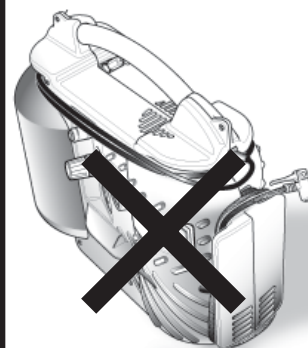

Fig. 5B
- Do Not operate compressor in vertical standing position (Fig. 5B).